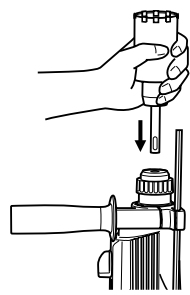

Fig. 15
- (2) Mount the core bit shank to the rotary hammer. (Fig. 15)